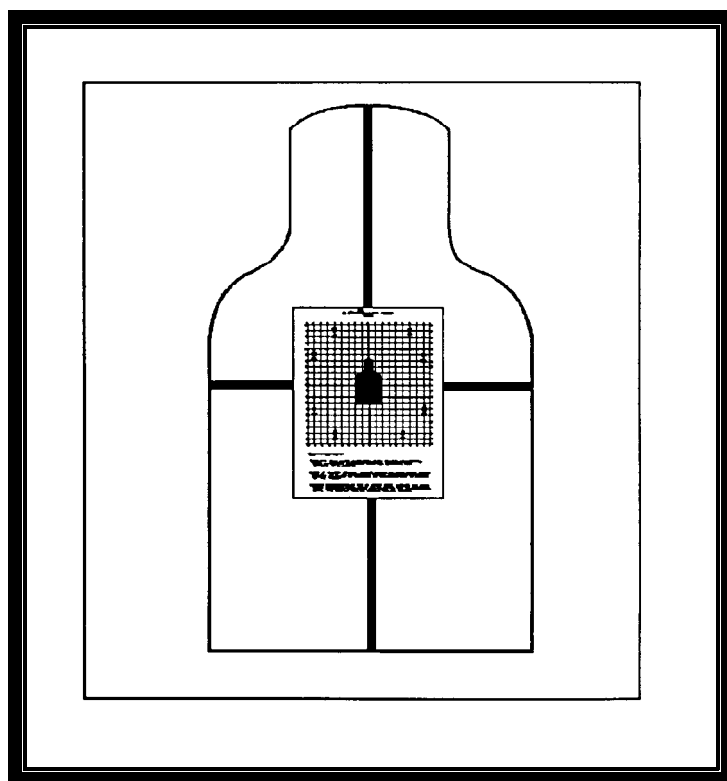

Figure 5
(1) **Modify the 25-meter zero target.** This is the first step in the live-fire zero designed to help the firer determine the center of target mass and maintain a consistent aim point when zeroing. Using the tan side of a cardboard E-silhouette, stripe the full length and width of the cardboard with 3/4-inch black electrical tape. These stripes should divide the E-silhouette in half, vertically and horizontally. Center and staple the 25-meter zero target at the intersection of these black stripes. The zero target can be removed from the E-silhouette and replaced as needed. See Figure 5 for this target configuration.